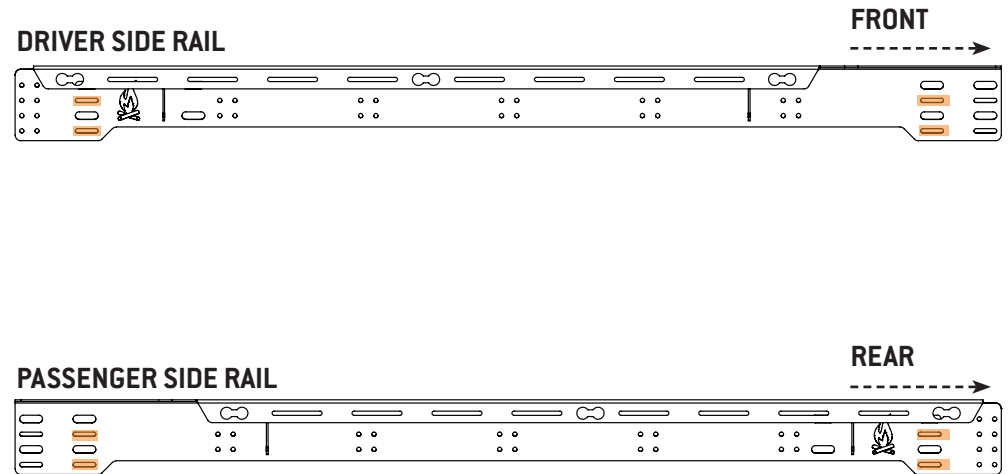

FIG 4
2.1b See mounting slots highlighted in **FIG 4**. These are designed to accommodate the 1/4-20 screws included in the hardware pack.